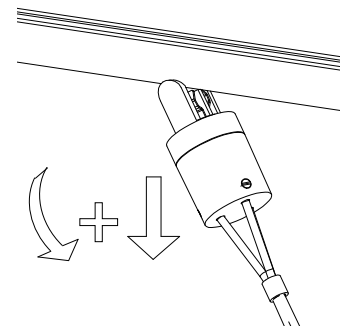

Fig. 25
2. To remove, tilt hanger then pull down from **Power Bar** (Fig. 25).